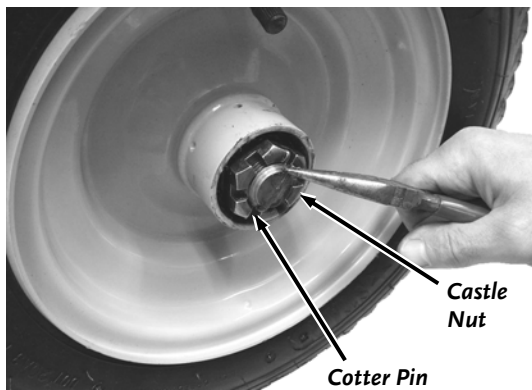

Figure 31
3. Straighten the ends of the Cotter Pin with Needle nose Pliers so the Cotter Pin can be pulled from the hole in the Axle (**Figure 31**).
7. Screw the Castle Nut onto the Axle and tighten it with an adjustable wrench to seat the Bearings (**Figure 31**).